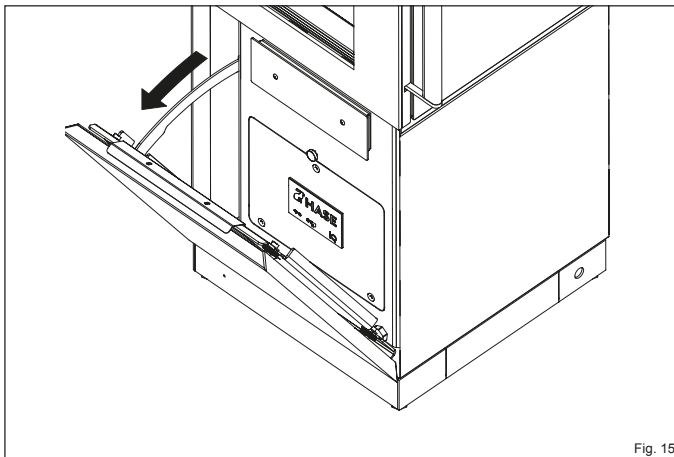

Fig. 15
- ▶ **Open the service door (Figure 15).**
- ▶ Pull the ash drawer out of the opening by the cover (Fig. 15).